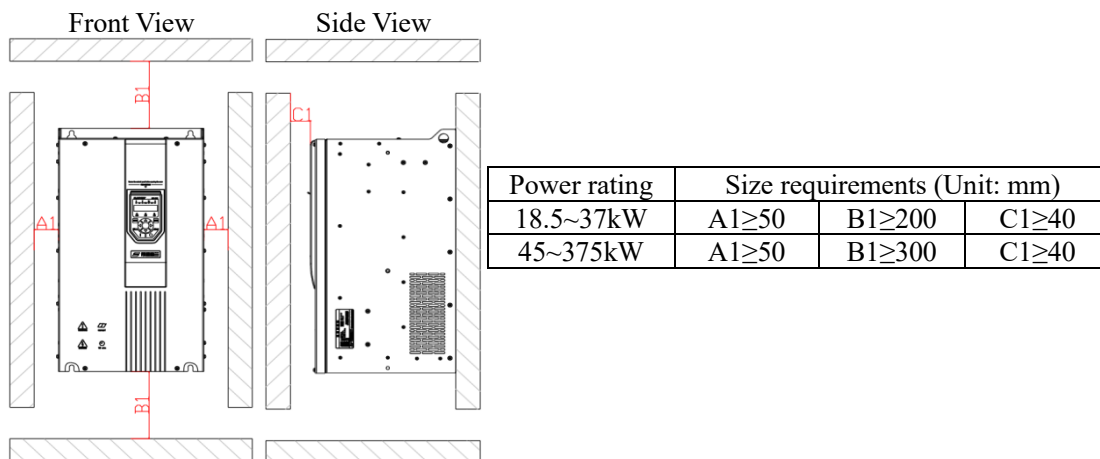

Fig. 3-2 Installation Spacing for a Single Set (Hope530G18.5T6~Hope530G375T6)
- Fig. 3-2 shows the installation space requirements. It is required to ensure that the frequency converter has sufficient space for heat dissipation. When reserving space, it is required to consider the heat dissipation conditions of other components in the cabinet;